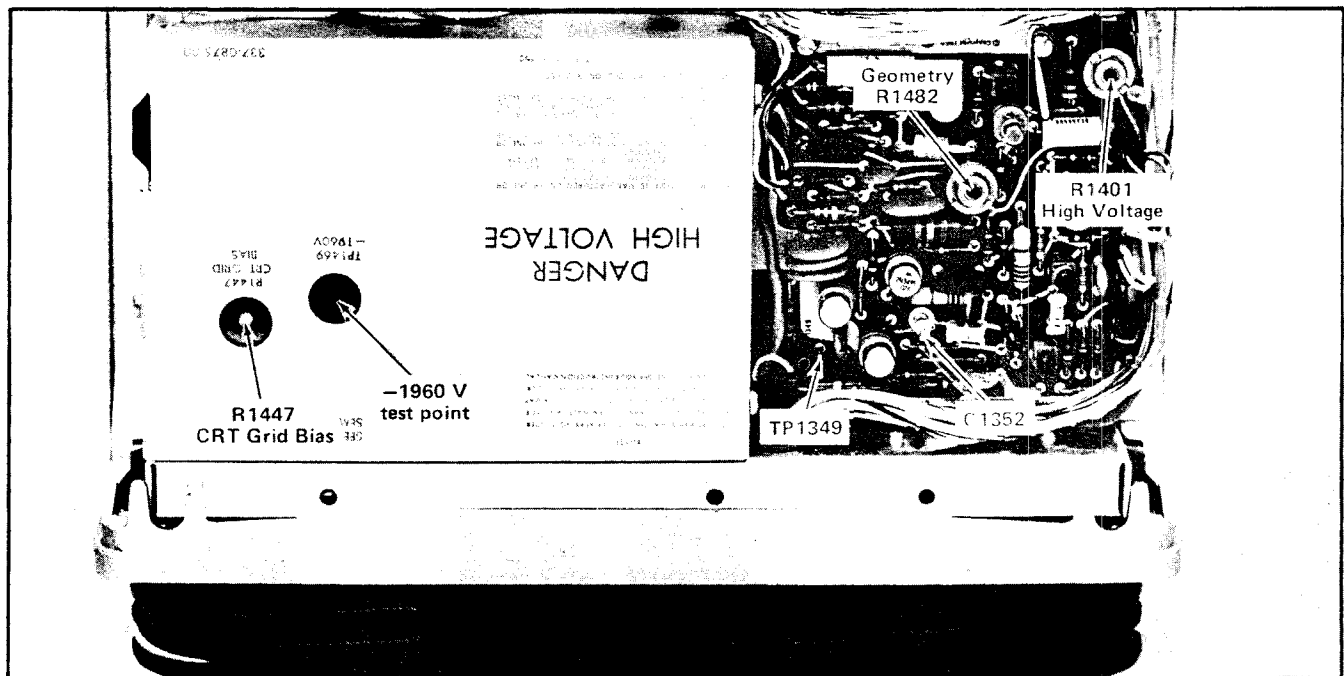

Fig. 5-5. Location of high-voltage and Z-AXIS adjustments and test-points.
a. Connect the precision DC voltmeter (use the precision 2 kV divider) between the -1960 V test point (see Fig. 5-5) and chassis ground.
c. ADJUST—High-Voltage adjustment R1401 (see Fig. 5-5) for a meter reading of -1960 volts (± 19.6 volts).
a. Connect the precision DC voltmeter between TP1349 (Z Axis Amplifier board; see Fig. 5-5) and chassis ground.
d. ADJUST—CRT Grid Bias adjustment, R1447 (see Fig. 5-5), so the spot on the CRT just disappears (it may be necessary to turn the horizontal POSITION control clockwise to bring the spot onto the viewing area).
- c. ADJUST—Geometry adjustment, R1482 (see Fig. 5-5 for minimum bowing of the trace at the left and right edges of the graticule.
- b. Connect the 10X probe tip to TP1349 (see Fig. 5-5).
- f. ADJUST—C1352 (see Fig. 5-5) for optimum square corner on the unblanking gate.